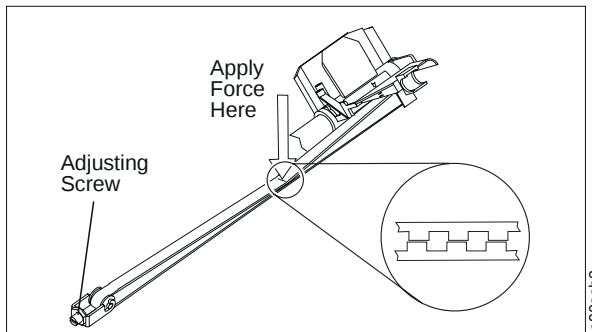

Figure 51. Carriage Belt. (Viewed From Top) - Teeth must align during measurement.
1. Power off (O) the printer.
4. Using a push-pull scale (such as IBM P/N 460870) to check the belt tension, apply pressure to the upper half of the belt (at a point midway between the printhead and the left side frame) until it begins to touch the bottom half of the belt. To accurately measure the tension, it is critical for the raised surfaces of the teeth to align, as shown in Figure 51.